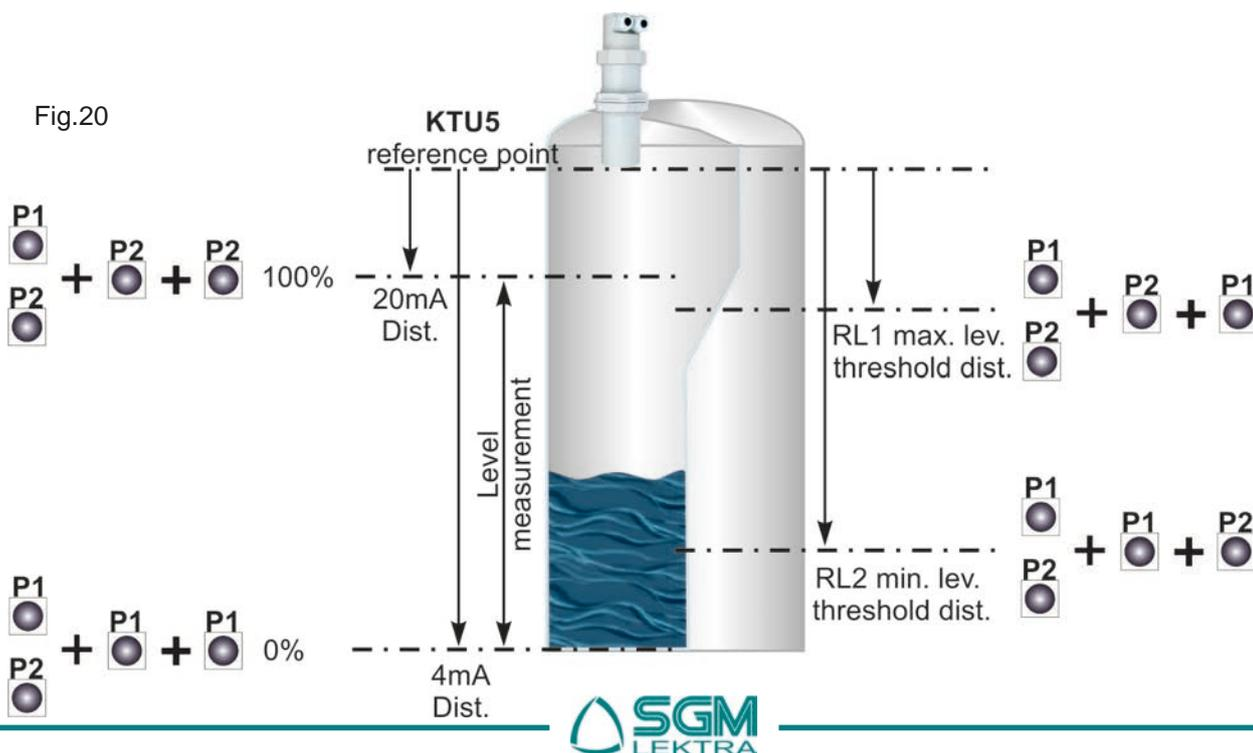

Fig.20
4.2.1 4mA DISTANCE (fig.20)
4.2.2 20mA DISTANCE (fig.20)
4.2.3 RL1 MAX LEVEL THRESHOLD DISTANCE (fig.20)
4.2.4 RL2 MIN LEVEL THRESHOLD DISTANCE (fig.20)